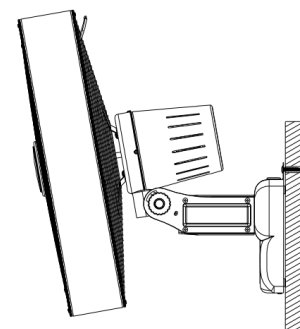

Fig. 3
- Insert the 2 mounting holes (9) on the fan over the screw heads and slide the fan down until it hangs securely in place (Fig. 3). Tighten the mounting screws if required.